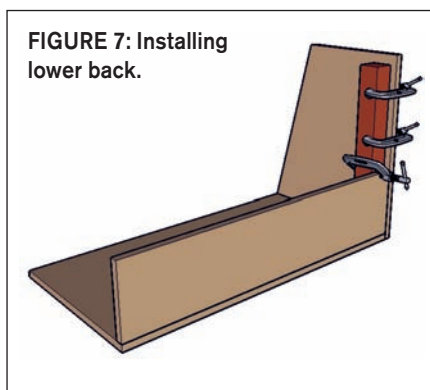

FIGURE 7: Installing lower back.
6). Attach the lower back to the assembly in the same fashion (**Fig. 7**).